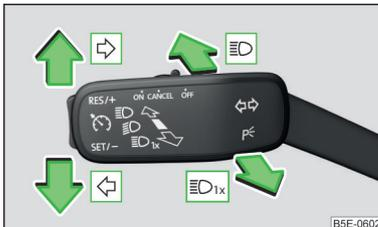

Fig. 48
Operating lever positions \gg Fig. 48
- Press the control lever all the way into position \rightarrow or \leftarrow until it stops » Fig. 48 on page 65.